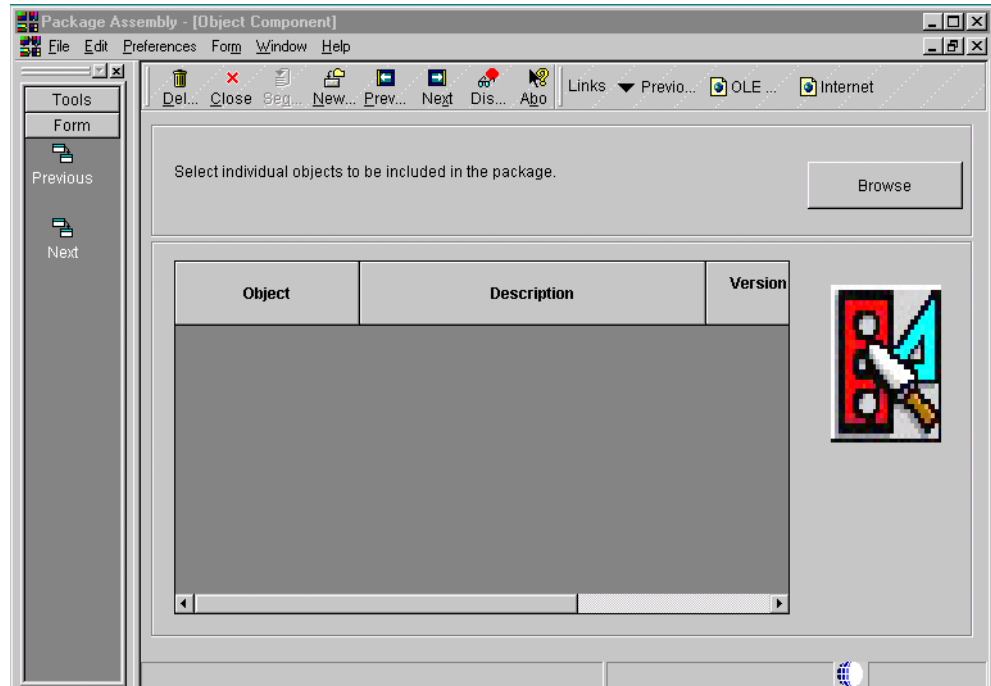

Figure 147. Object Component form
9. Click **Next**. When you are assembling a partial or update package, the Object Component form appears (Figure 147). This form allows you to specify the individual objects you want to include in your package. When you revise a previously-assembled package, objects you added earlier are displayed.